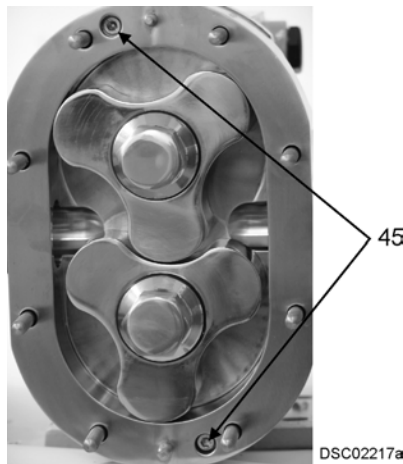

Figure 33 - Location of Cap Screws
1. Remove the two body retaining cap screws (Figure 33, item 45).